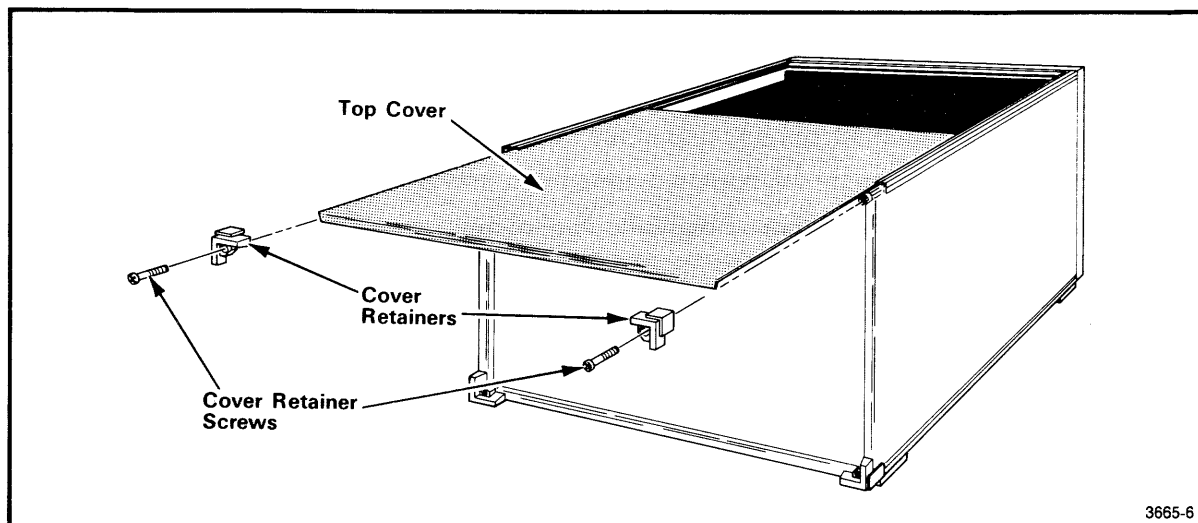

Fig. 6-1. Removal/installation of the top cover.
2. Remove the two cover retainers at the upper rear corners of the mainframe. (Refer to Fig. 6-1.)
15. Install the cover retainers at the upper corners on the rear of the mainframe. (See Fig. 6-1.) Tighten the cover retainer screws securely.